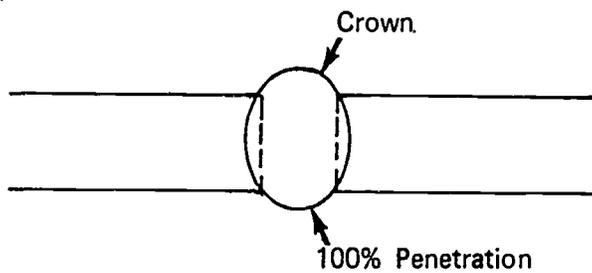

FIGURE 5
- J. Inspect weld for complete penetration at the root with a slight crown (Figure 5)